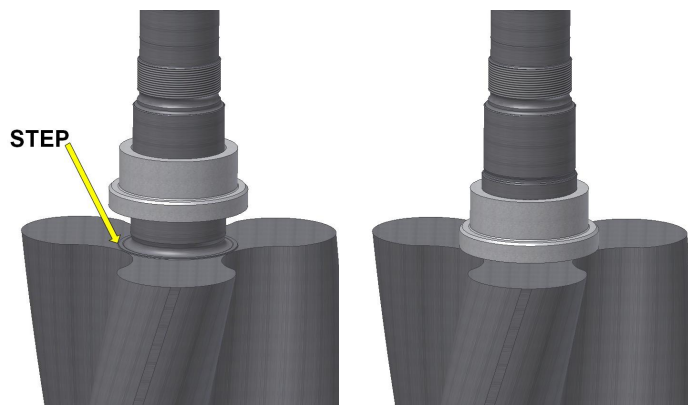

Figure 9-2 – MECHANICAL SEAL SPACER INSTALLATION
4. Using heat resistant gloves, remove spacer from heat source and quickly install onto rotor shaft so large diameter of spacer is closest to rotor body. Spacer should slide into position against rotor body step. If spacer does not easily install, use driver tool EQ144211-3 to ensure spacer is up against rotor body step until cooled. Reference FIGURE 9-2.